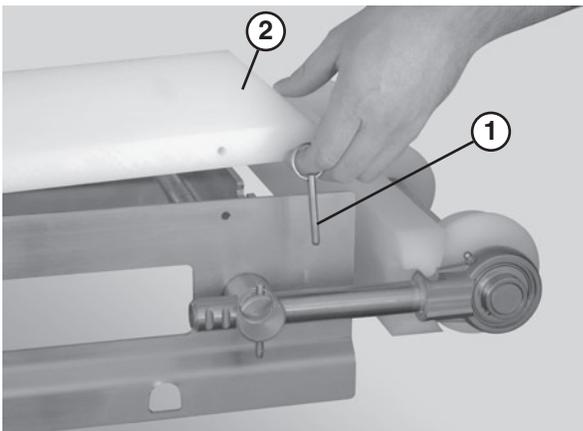

Figure 56
1. Remove the pull pins (Figure 56, item 1) that connect the guide (Figure 56, item 2) to the frame.